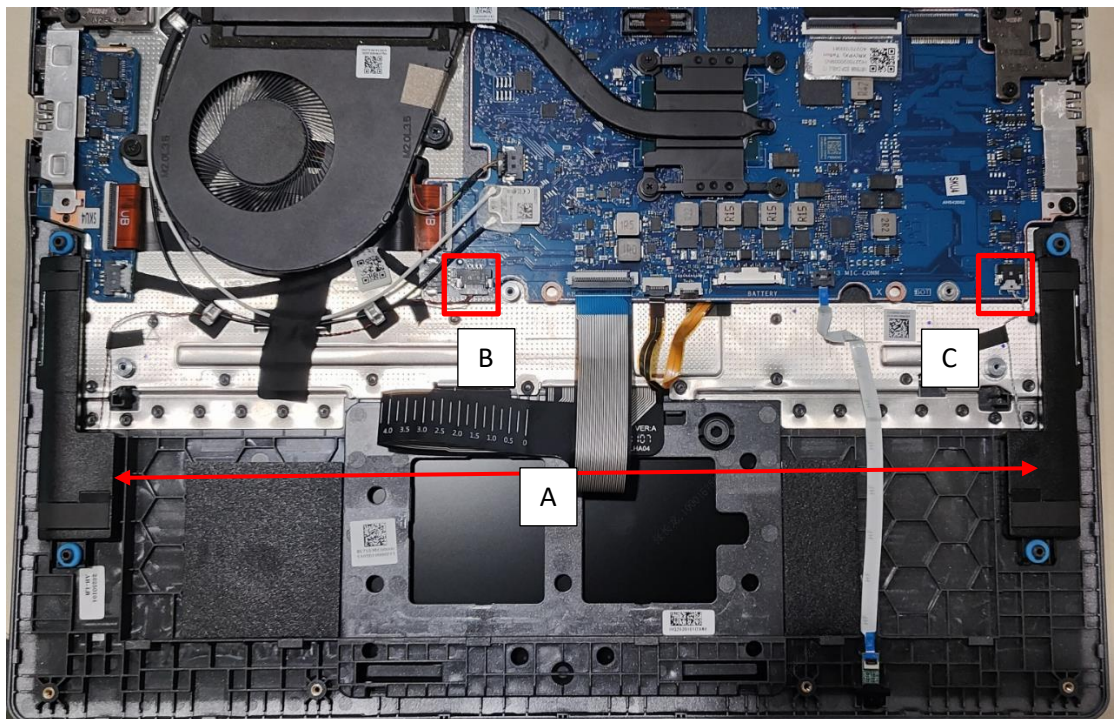

Figure 3-20. Speaker Module Removal
1. Find the speaker module (A) on the top assembly (Figure 3-20).
2. Disconnect the left speaker cable from the mainboard connector (B) (Figure 3-20).
3. Disconnect the right speaker cable from the mainboard connector (C) (Figure 3-20).